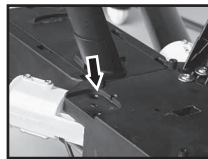

Figure 1
- 1.Insert the landing gear firmly to the slots on the drone.(Figure1)